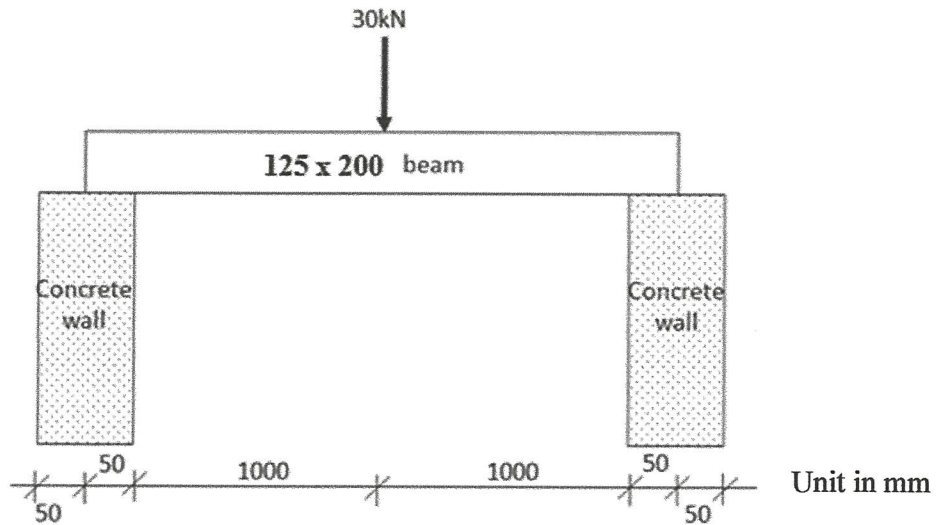

FIGURE Q4
- Q4** (a) Describe **FIVE (5)** factors that affect the strength and durability of timber. (5 marks)
- (b) The nominal 125 x 200 mm strength group 4 (SG4) sawn standard grade timber under dry condition is to be used as a beam. The beam is subjected to a vertical load of 30kN as shown in **Figure Q4**. Check the adequacy of the beam for bending and shear. Ignore the weight of beam. (11 marks)